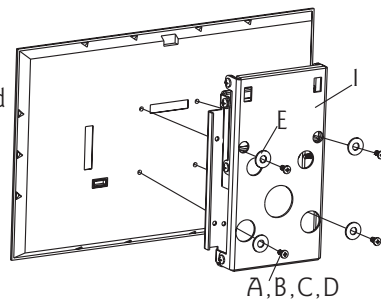

Fig 1
According to the Fig. 1, mount the part-a to the back of the LCD. First determine the right holes, which should be level to each other, on the part-a according to the holes in the back of the LCD. Mount the part-a to the back of the LCD by 4 bolts and washers (D).